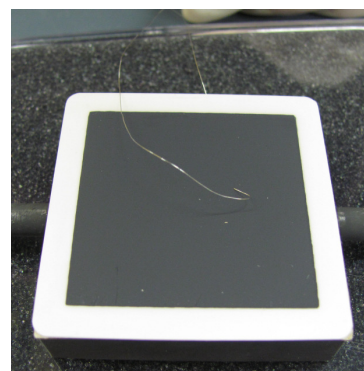

Figure 15
8. Bend a small hook into the remaining platinum voltage wire and place it in the middle of the painted cathode active area (Figure 15). Ensure that you do not place the cathode voltage wire directly on top of the anode voltage wire – these must not be in contact during testing.